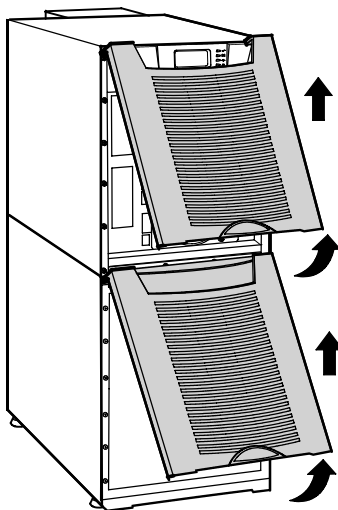

Figure 34. Removing the Front Covers
1. Remove the front covers of all cabinets, starting with the top cabinet. Press and release the handle latch at the bottom of each cover and then lift the cover up and off the cabinet (see Figure 34).